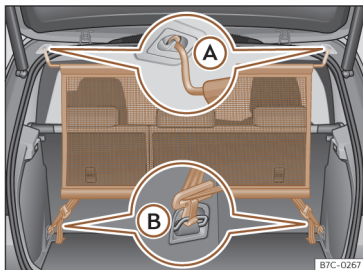

Fig. 163 Net partition fitted.
- Hook the net partition to the left-hand side roof housing >>> Fig. 163 A. Be sure to pull the cross rod down past the upper position.
- Hook in the net partition on the rear right-hand side roof housing by pressing on the bar >>> Fig. 163 A.
- Secure two hooks of the partition net to the fastening rings of the boot >>> Fig. 163 B and tighten the straps firmly.